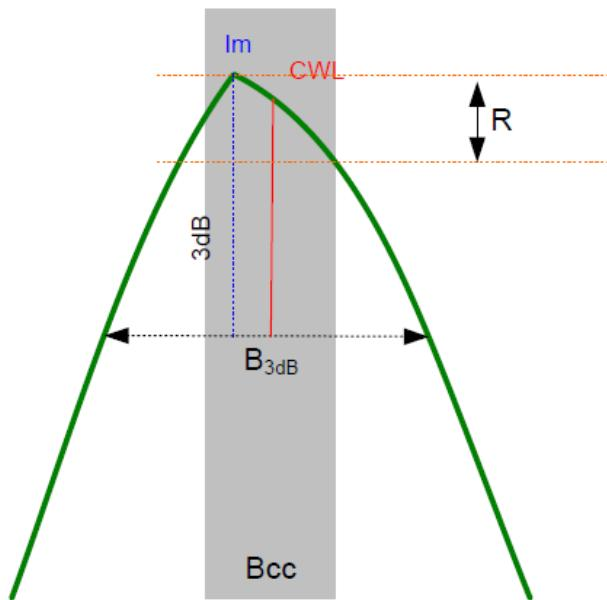

Fig. 4.1, Definitions of bandwidth, insertion loss, and ripple for a through channel
- **Insertion Loss at Peak [Im]** is defined as insertion loss at maximum transmission within the channel passband bandwidth, without connector loss. Measured at output fiber, as shown in Figure 4.1.